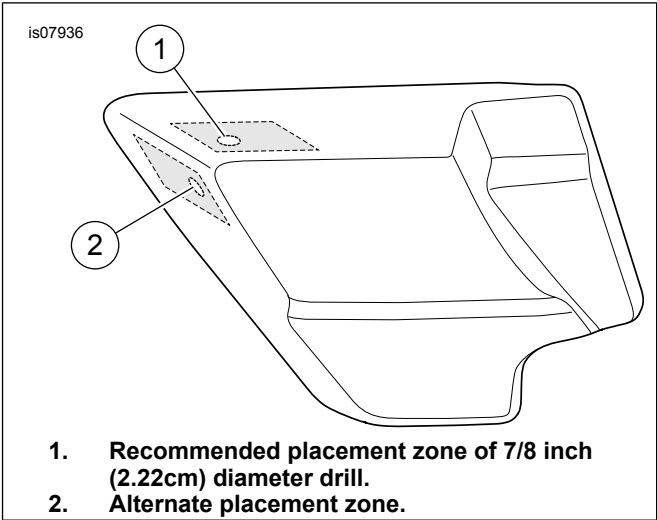

Figure 1. Left Side Cover
- a. Find a suitable location on either side cover to mount the power outlet. Use the location zones noted in Figure 1. The top surface near the front corner is recommended. An alternate location on the front/side surface is also noted in Figure 1, but may not be available in many instances due to exhaust clearance.